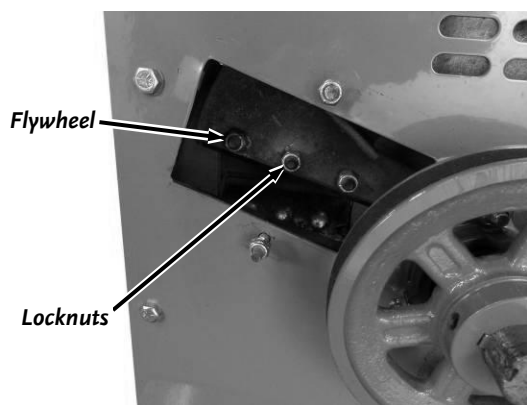

Figure 33
4. Rotate the Flywheel using a long stick until the three countersunk Allen Screws and Lock Nuts attaching the Knife to the Flywheel are visible through the Access Cover and Hopper openings (**Figure 33 and 34**).